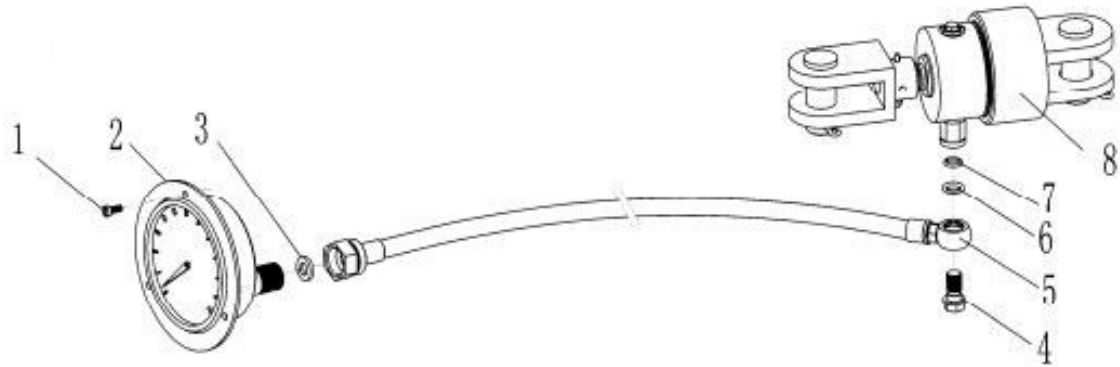

Fig .29
11. Torque testing system of master tong (Fig29, Table26)
- Torque testing system of master tong (Fig29, Table26)